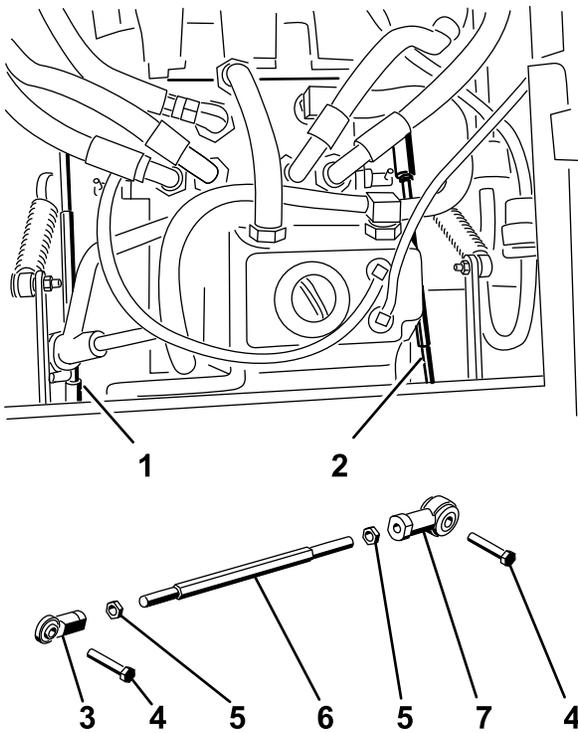

Figure 58
6. Adjust the pump rod length on one side by rotating the hex shaft, in the appropriate direction, until the corresponding wheel is still or slightly creeping in reverse (Figure 58).